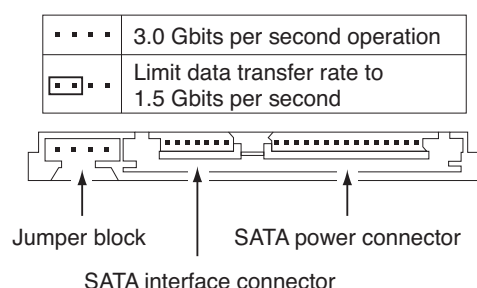

Figure 1. Serial ATA connectors
- Install a jumper as shown in Figure 1 below to limit the data transfer rate to 1.5 Gbits per second (and leave the drive connected to the SATA-equipped motherboard or host adapter that doesn't support autonegotiation) or
- Install a SATA host adapter that supports autonegotiation, leave the drive jumper block set to “Normal operation” (see Figure 1 below), and connect the drive to that adapter. This option has the benefit of not limiting the drive to a 1.5 Gbits/sec transfer rate.